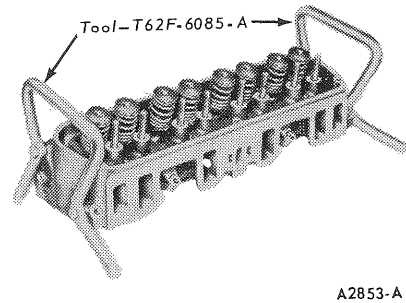

FIG. 48 Cylinder Head Holding Fixtures
6. Install the cylinder head holding fixtures (Figure 48). Remove the cylinder head attaching bolts and lift the cylinder head off the block. Remove and discard the cylinder head gasket.